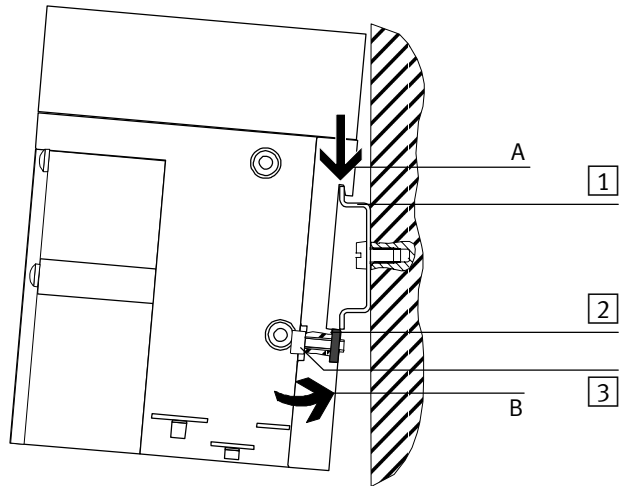

Fig. 2/9: Fitting a CPX terminal (here with CPA pneumatics) onto a hat rail
6. Swing the CPX terminal onto the hat rail (see Fig. 2/9, arrow B). Make sure that the clamping element lies horizontally to the hat rail.